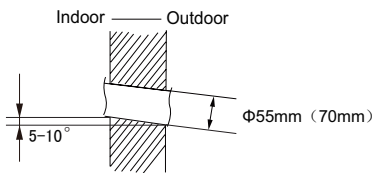

Fig.2
(2) Open a piping hole with the diameter of Φ55mm(70mm) on the selected outlet pipe position. In order to drain smoothly, slant the piping hole on the wall slightly downward to the outdoor side with the gradient of 5-10°. (As show in Fig.2)